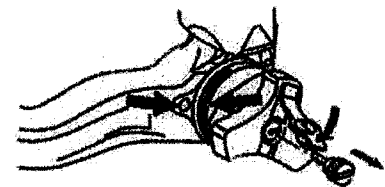

Figure 4
Step 5. Verifying proper engagement can be done by first firmly shaking hitch assembly. Then you should visually inspect that the green stripe on the handwheel is aligned with the white dot on the ball rod. (See Figure 4)
Step 6. You must now remove the key and replace the lock cylinder protective cover. (See Figure 4)